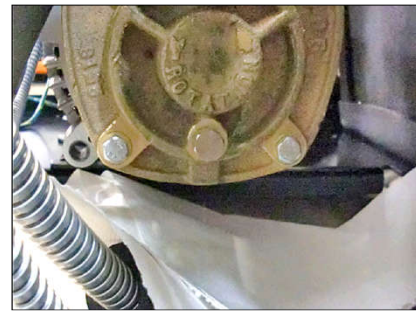

Figure 3-3. Paper Towel Placement
- 4) During the priming process, a small amount of water will drip from the screw hole. This purges the air from within the pump head. To avoid spillage, place a small paper towel under the pump head (Figure 3-3).